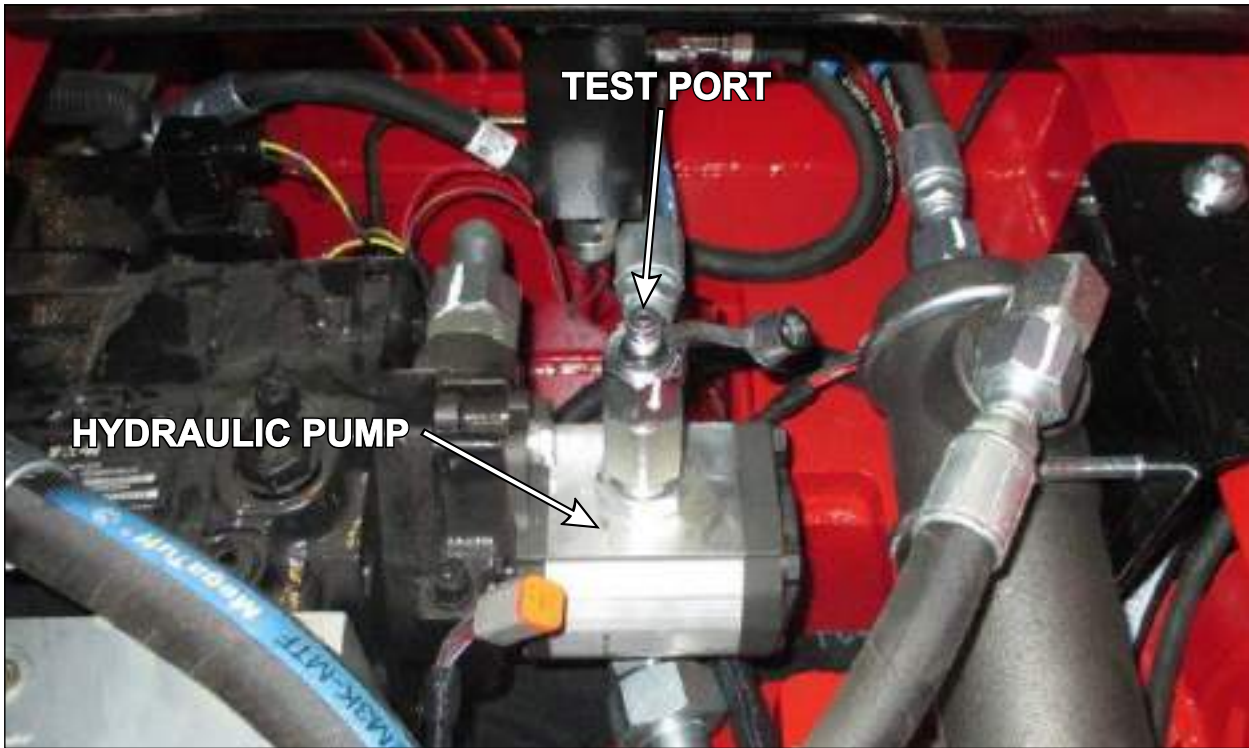

Figure 3-25: Charge Pressure Test Port
1. Connect gauge to test ports at the brake valve. **See Figure 3-25.**
7. Remove the high pressure drive manifold. See **Figure 3-25**.